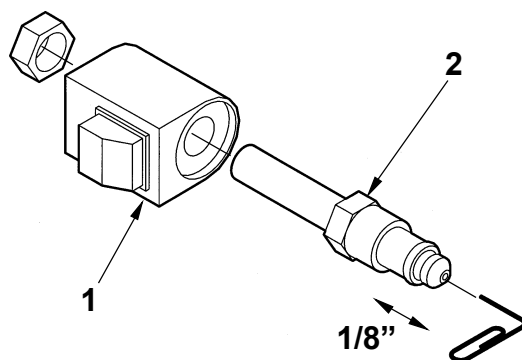

FIG. 2
2. Check the Valve Stem by removing the Coil Assembly, **(Item 1, FIG. 2).** Unscrew the Valve Stem, **(Item 2, FIG. 2),** from the Pump. Push on the plunger that is located inside the Valve Stem by inserting a paper clip in the end. If the Plunger does not move freely approximately 1/8", replace the Valve Stem.